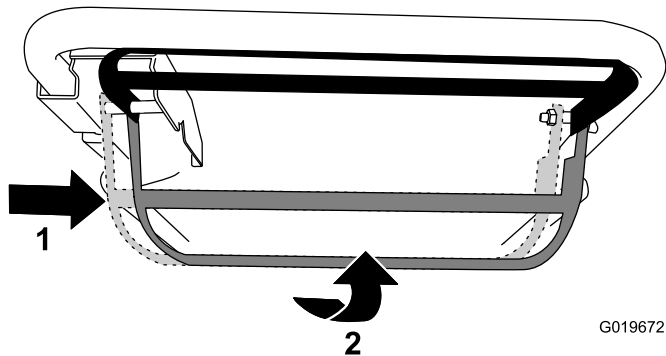

Figure 19
- To operate the self-propel drive and engage the blade, slide the control bar all the way to the right and raise it to the handle (Figure 19).